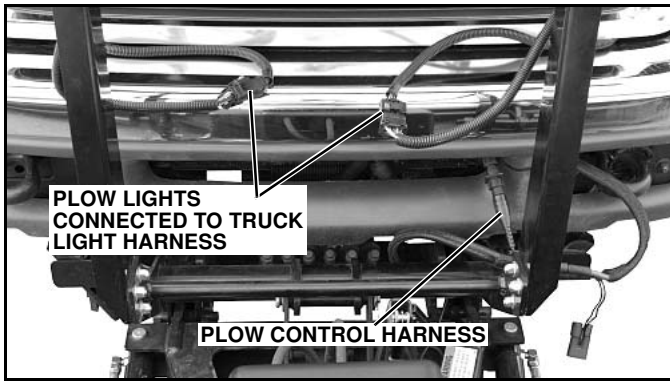

Figure 1-19
8. Plug plow light connectors into mating connectors on truck light harness (See Figure 1-19).